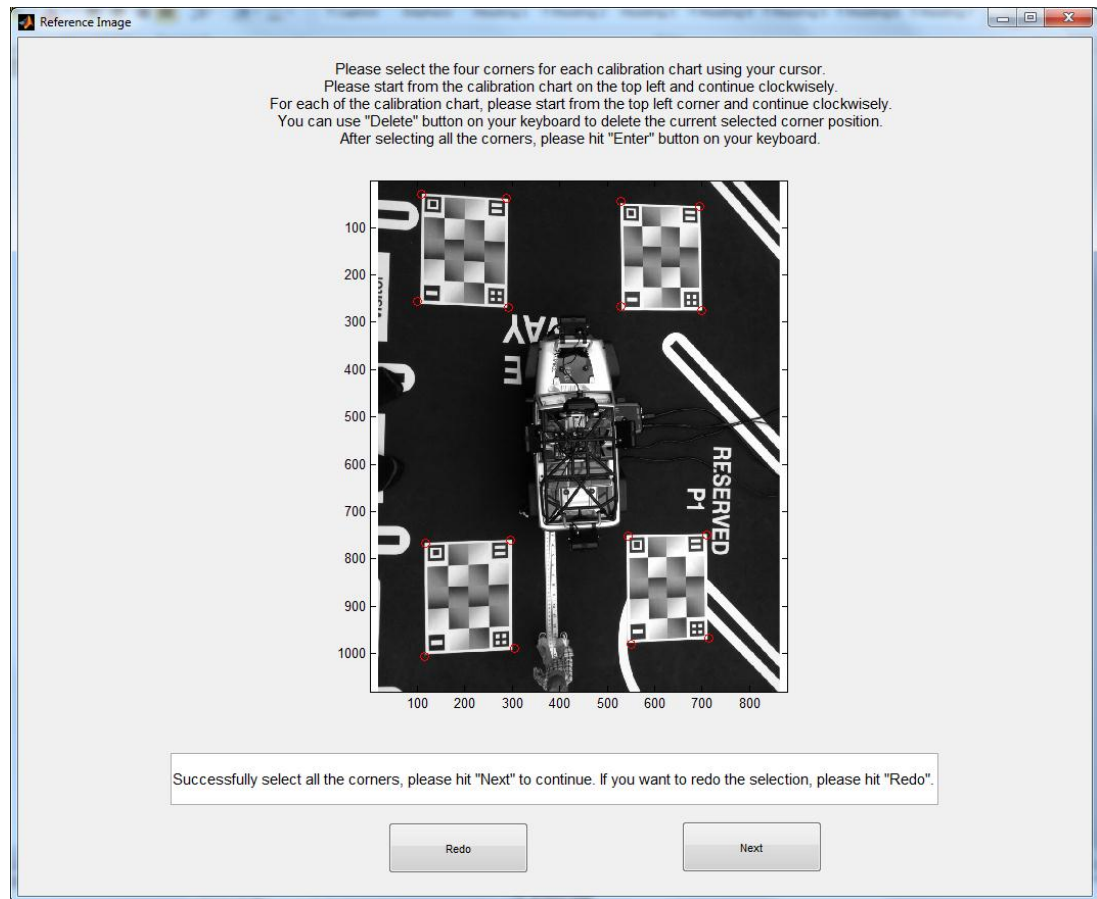

Figure 14 – Select corner positions in reference image.
3. Select the corner positions in reference image as shown in Figure 14. Please follow the instructions on the GUI, you will get a message indicating whether you have succeeded to select the points as shown before.